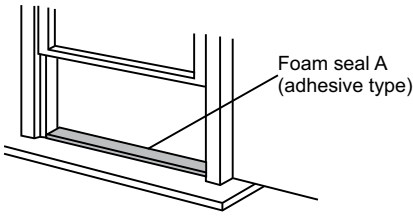

Fig.8
1. Cut the foam seal (adhesive type) to the proper length and attach it to the window stool. Fig.8